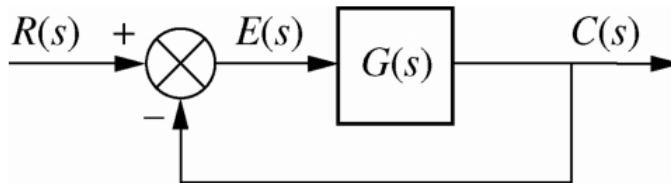

Figure 2: Unity feedback system.
4. For the unity feedback system in shown in Figure 2, the open-loop TF is given as follows: